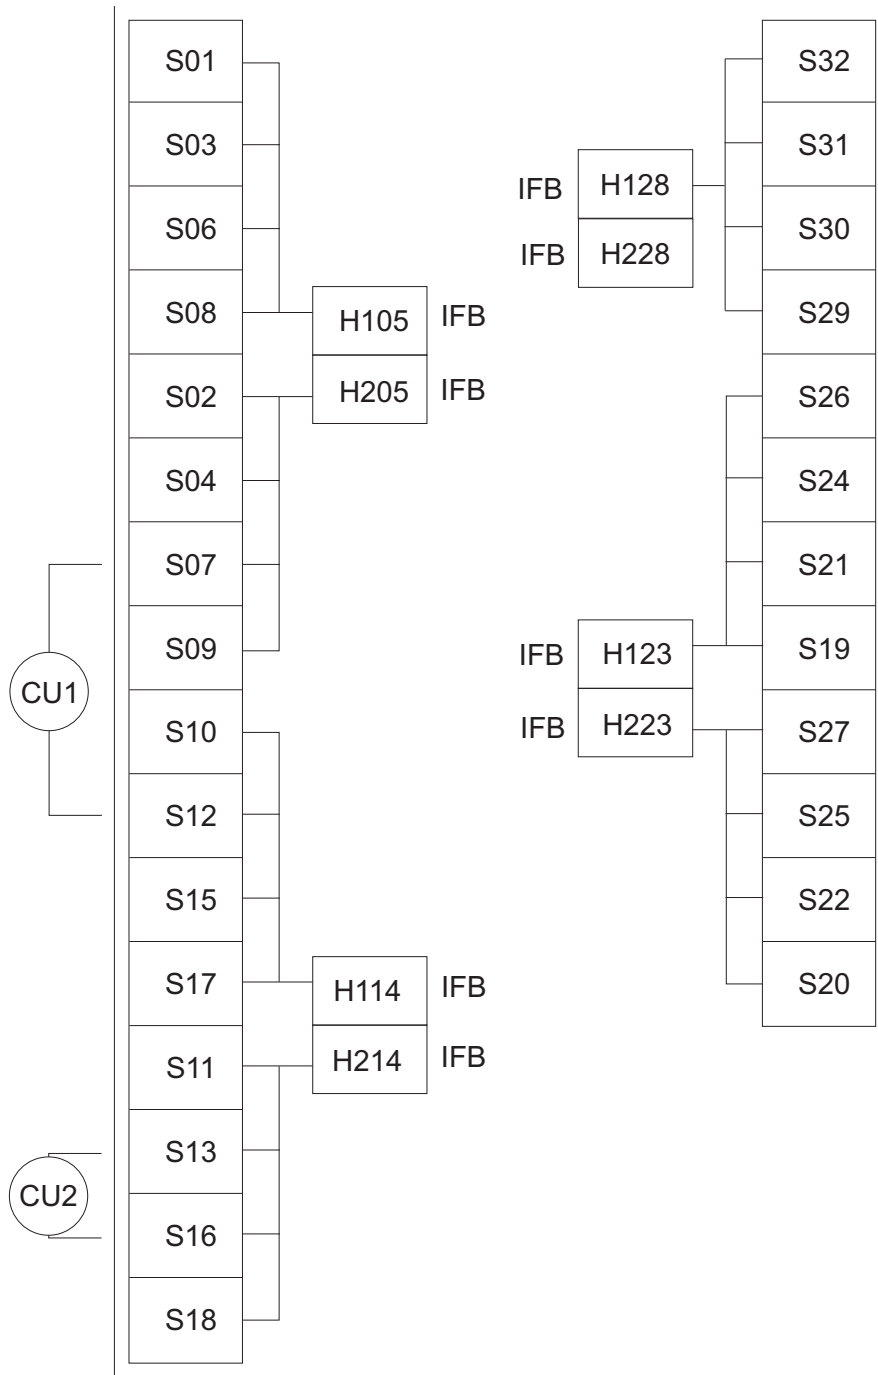
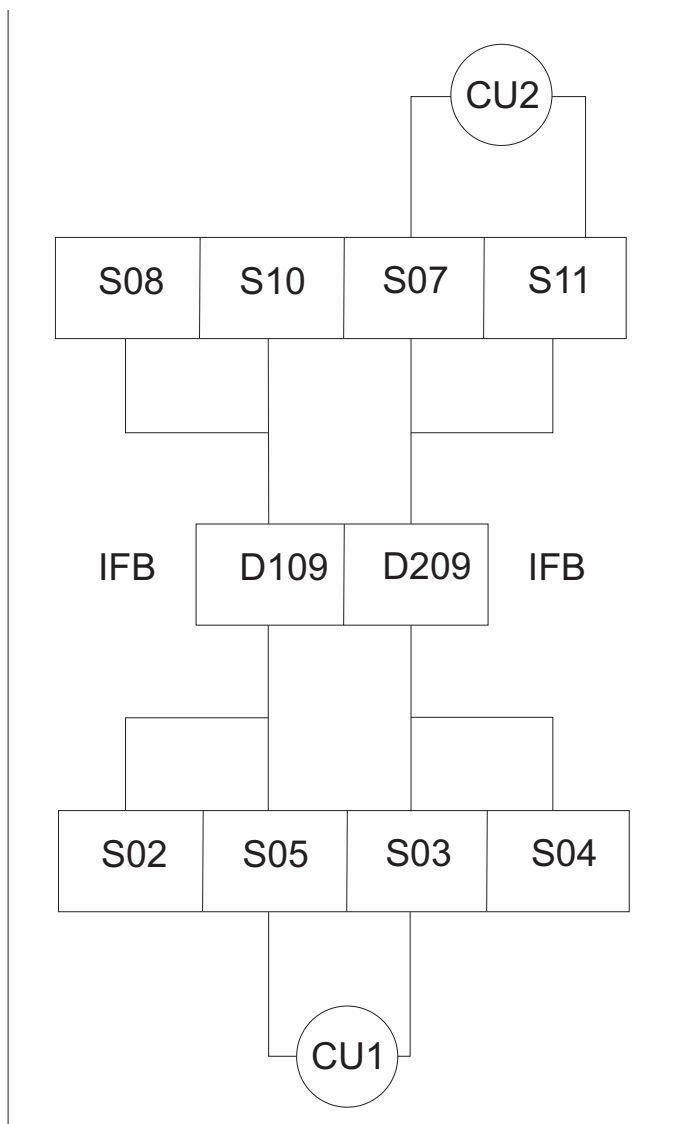

Figure 5. I/O channel path configuration for a representative I/O cage in a 2097 model
Figure 6. I/O channel path configuration for a representative I/O drawer in a 2098 model
Figure 5 on page 9 shows the major components of the input/output (I/O) subsystem for 2097 models and suggests ways to configure I/O for maximum availability.
Figure 6 shows the major components of the input/output (I/O) subsystem for 2098 models and suggests ways to configure I/O for maximum availability.
When configuring devices with multiple paths to the same CPC, select any of the channel paths shown in Figure 5 on page 9 for 2097 or Figure 6 for 2098 that:
**Note:** The examples shown in Figure 5 on page 9 and Figure 6 on page 10 merely try to illustrate availability guidelines and do not represent overall optimal configurations.